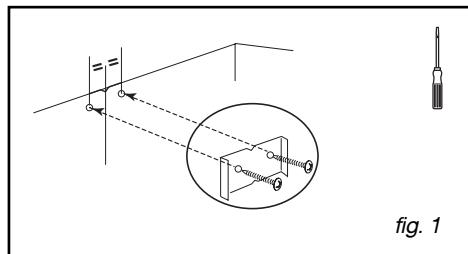

fig. 1
- Using the two screws (fig. 1), attach the metal ventilation shaft bracket against the wall, flush with the ceiling for support.
- Remove the back-flow valve (fig. 1).